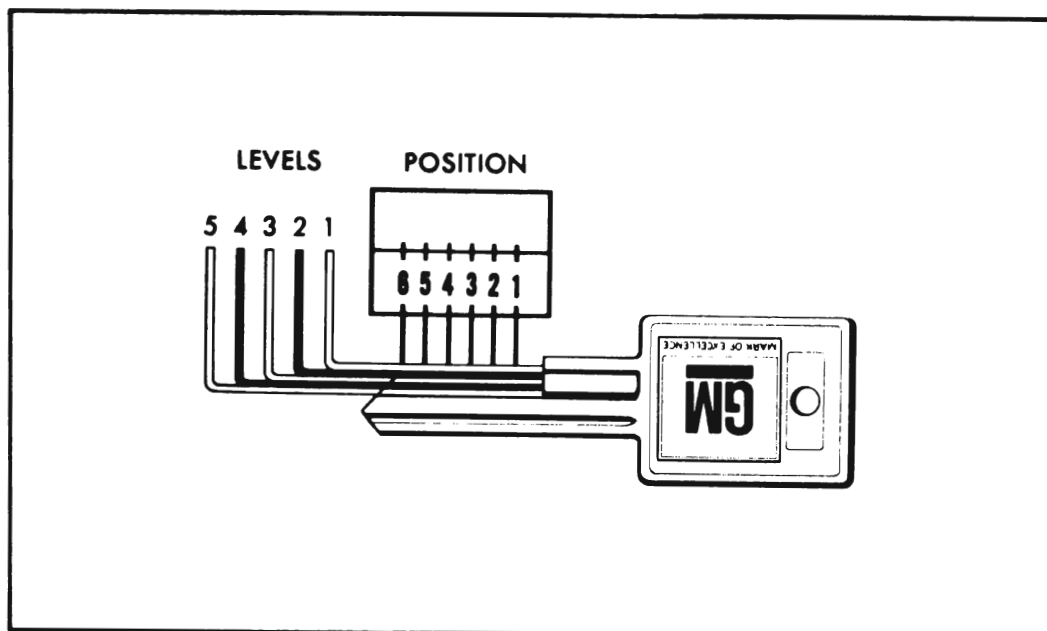

Figure 00-6 - Key Code Diagram
Key code numbers are stamped on the "knock-out" plug in the key head. After the code has been recorded by the owner to facilitate replacements or duplications of a key, the plugs should be knocked out of the key heads. If key code numbers are not available from records or from the "knock-out" plug, the code can be determined by laying the key on the diagram in Figure 00-6, or from the ignition lock cylinder housing and glove compartment lock assemblies themselves. The station wagon ignition lock cylinder will be marked with the key code number for the tailgate lock cylinder, the door lock cylinders and ignition lock cylinder.
For "J" type lock cylinders assemblies, the key code number is stamped on the ignition lock cylinder housing; for "K" type lock cylinder assemblies, the number is stamped on the glove compartment (marked on the tumbler carrying plug) lock cylinder. From these numbers the lock combination can be determined by use of a code list for cutting new keys for coding a replacement service lock cylinder assembly. Door lock, rear compartment, and tailgate lock cylinders coded by the car division do not have key code numbers stamped on them; therefore, codes may be determined either from a ignition or glove compartment lock cylinder of the same car which will have the same lock tumblers, or from the key code diagram. See Figure 00-6.
1. Lay the key on the Key Code Diagram, Figure 00-6, with the key outlined by the diagram as accurately as possible.